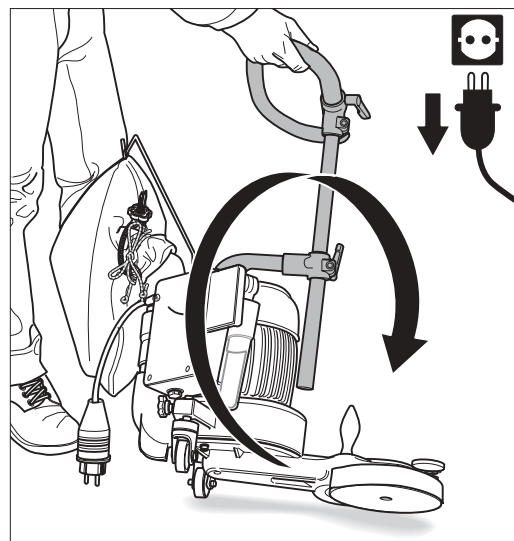

Fig. 43: Tilt the UNICO over to the **left-hand** side and set it down carefully.
- 3 Place the UNICO on its side by grabbing the machine by the handlebar on the right-hand side and then tilt the machine over to the **left-hand** side (Fig. 43) and set it down carefully.